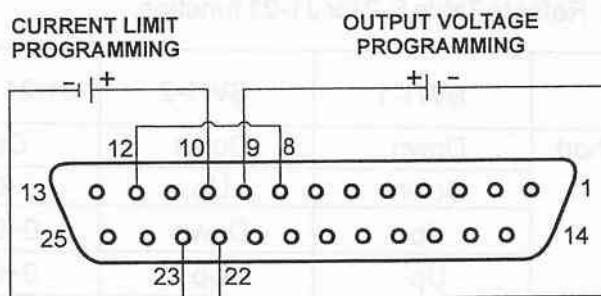

Fig.6-1: Remote voltage programming connection
17. Connect the programming source to the mating plug of J1 as shown in Fig.6-1. Observe correct polarity for the voltage source.